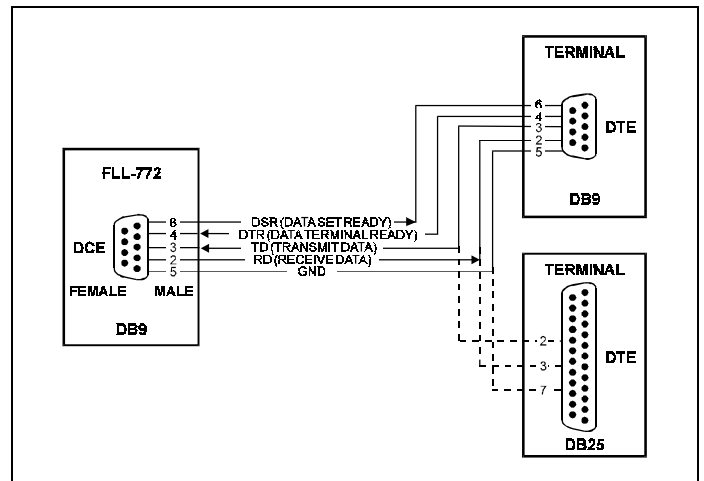

Figure 4. FRL-772 DB-9 Pin Outs. A standard RS-232 (DB-9) connector on the front panel provides access to the menu interface feature via an ASCII terminal.
8.01 The terminal management function at the remote terminal enables a technician to monitor the entire PG-Flex system through an ASCII terminal (or equivalent) connected to the maintenance port. The pin-outs for the standard RS-232 (DB-9) maintenance port connector are shown in Figure 4. With the management function, the technician can view status, configuration, performance, and inventory information.